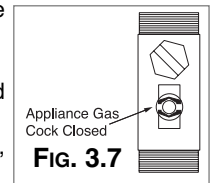

FIG. 3.7
- the gas cock is closed (Fig. 3.7);